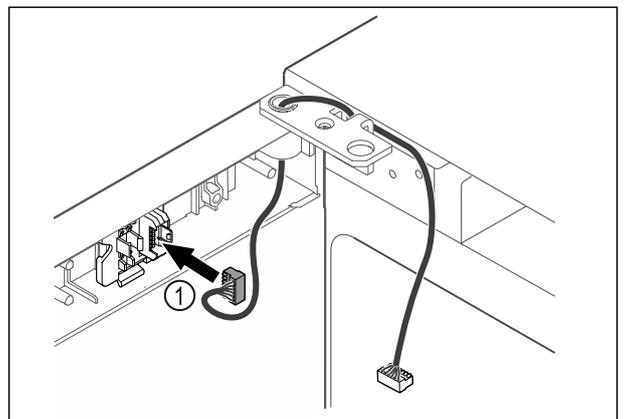

Fig. 47
- ▶ Put the plug Fig. 47 (1) in the plug holder.